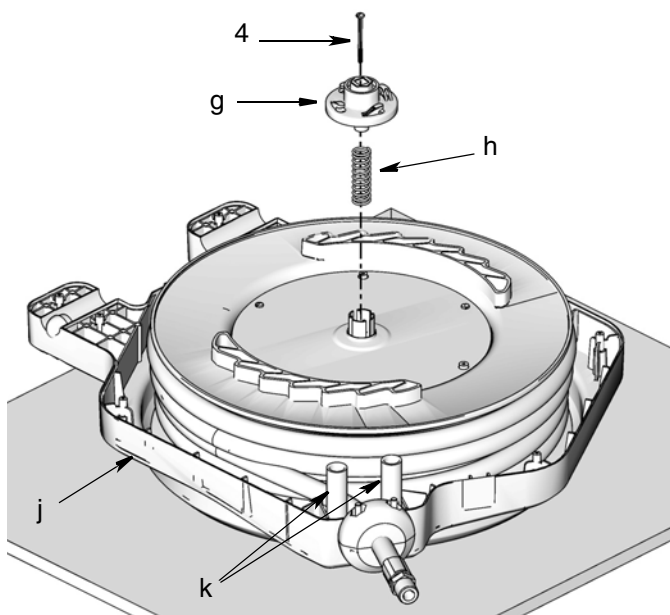

FIG. 22
4. Feed end of hose through hose guide in enclosure and install hose guide rollers (k) in enclosure (j) on either side of hose (FIG. 22).
5. Install spring (h), spring adjuster (g) and bolt (4) (FIG. 22). Hand tighten.